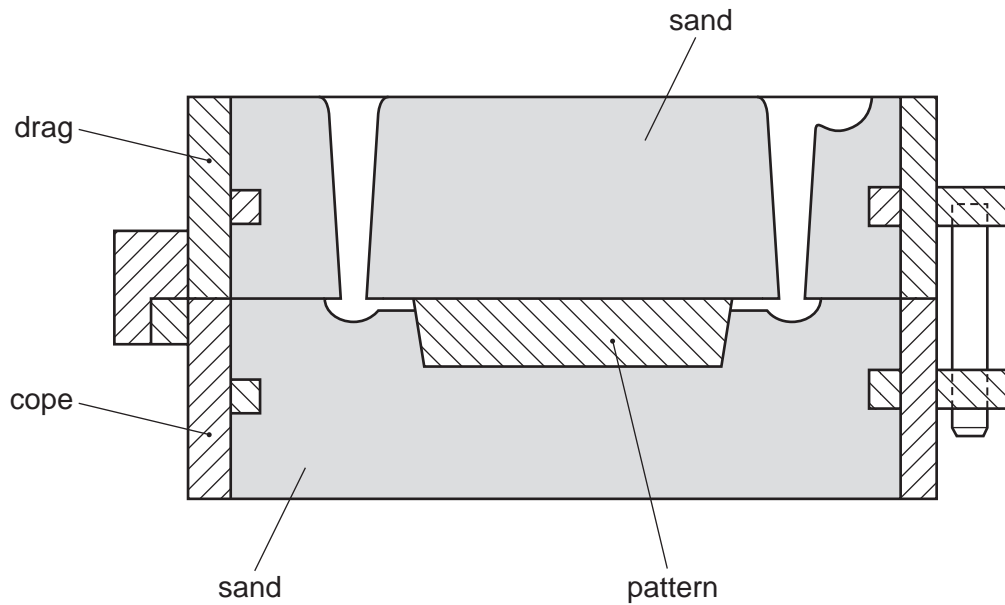

Fig. 6
- 4 Fig. 6 shows the section through a pair of casting boxes with a one piece pattern in place.